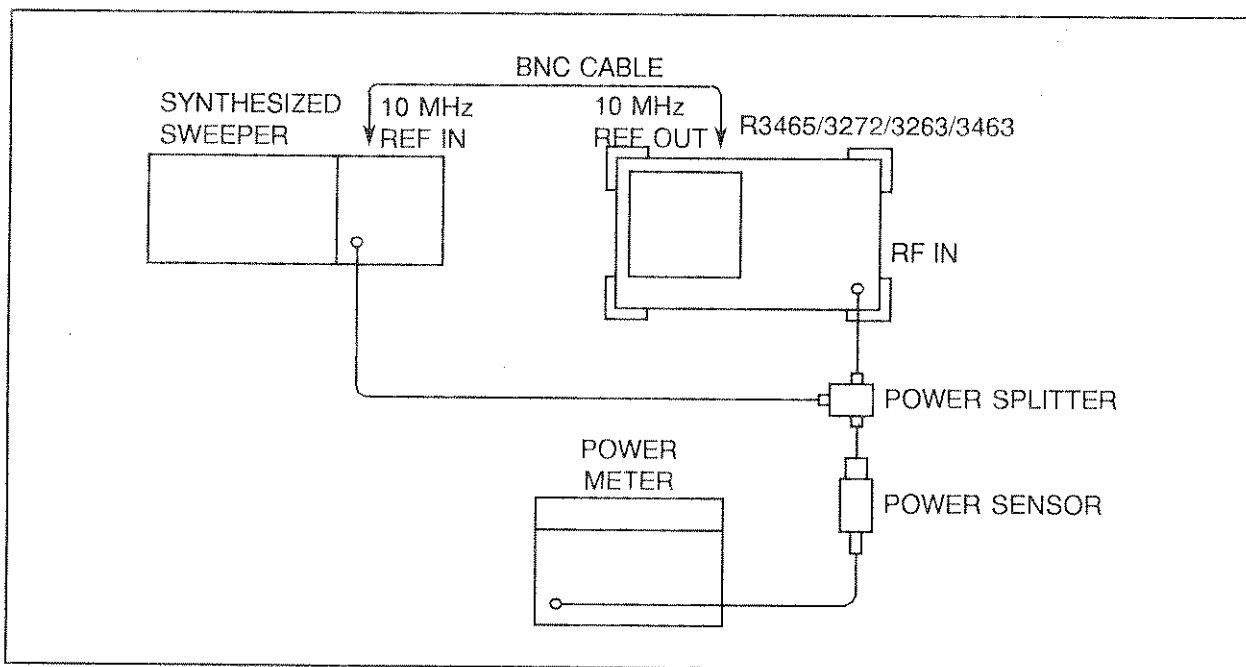

Figure 1-12 Image, Multiple and Out-of-Band Response Test Setup
(1) Connect the equipment as shown in Figure 1-12, but do not connect the power sensor.
(2) Press the INSTR PRESET key on the SG3 and set the controls as follows: